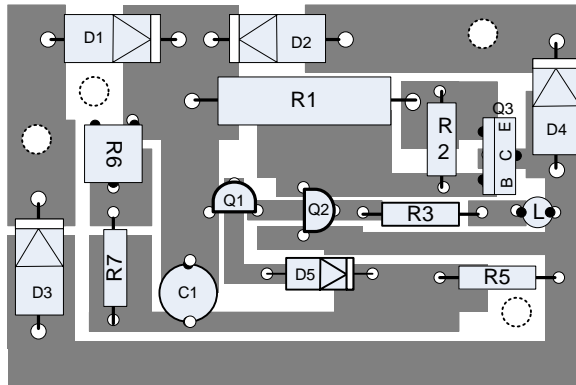

Figure 1: Circuit Diagram (Actual Size)
Figure 1 shows a layout for a printed circuit board, but the same layout applies to using perforated breadboards. Appendix B provides a layout etching mask.
6. Insert transistor Q2 and solder to the circuit board observing the correct orientation as shown in Figure 1.